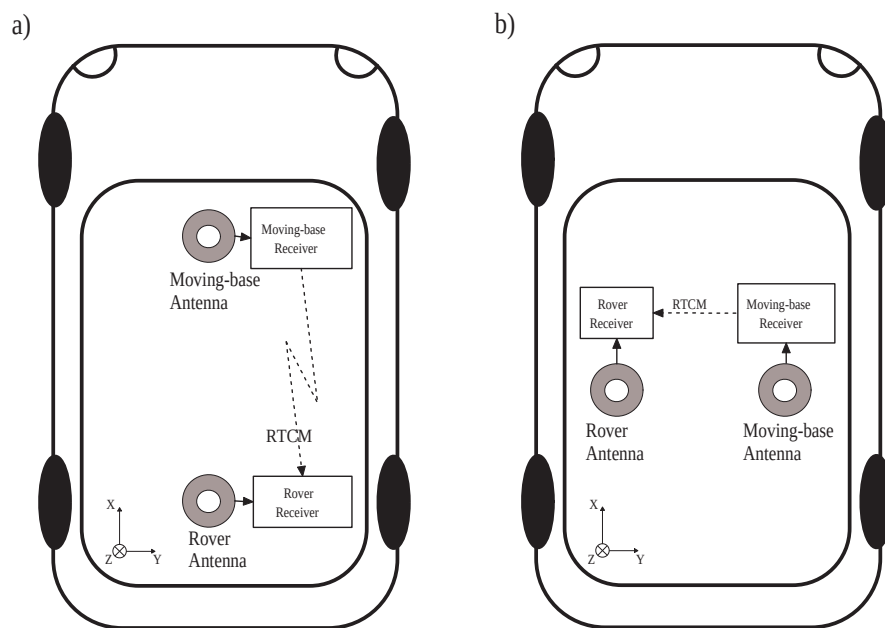

Figure 1-4: Moving-base attitude determination setup. a) default configuration. b) example of non-default configuration.
The heading and pitch of a vehicle can be derived from the orientation of the baseline between a base and a rover antenna when both antennas are attached to the vehicle. The base antenna is connected to a first receiver configured as RTK moving base station. The rover antenna is connected to a second receiver configured as RTK rover and accepting the RTCM stream from the first receiver. This is illustrated in Figure 1-4.
1. Attach two antennas to your vehicle. The default antenna configuration is as depicted in Figure 1-4 a). It consists in placing the antennas aligned with the longitudinal axis of the vehicle. If such configuration is not possible, you will have to provide additional information to the receiver, as explained below. For best accuracy, try to maximize the distance between the antennas, and avoid significant height difference between them.
5. By default, the attitude angles are computed assuming that the two antennas are aligned with the longitudinal axis of the vehicle, and that the moving-base antenna is in front of the rover antenna (see Figure 1-4 a)). If you cannot place the antennas in such configuration, the reported attitude angles will be biased. This bias can be compensated for with the **setAttitudeOffset** command. For example, if the heading and pitch angles reported by the receiver have an offset of respectively 10 and 12 degrees with respect to their expected value, you can have the receiver compensate for that offset with: